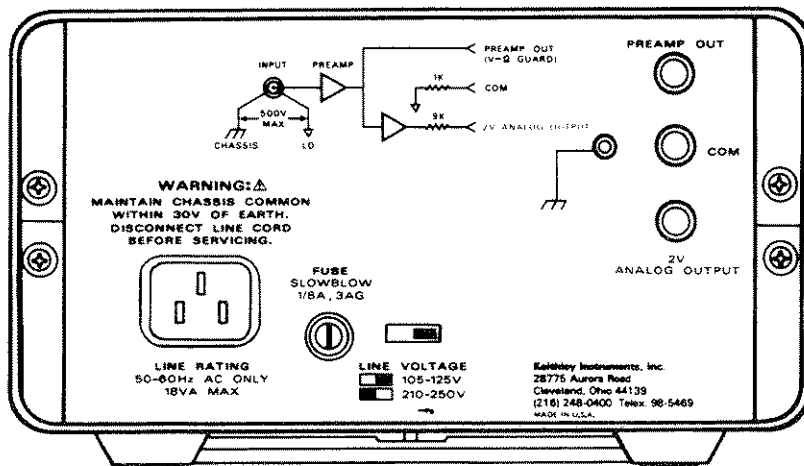

Figure 1-2. Model 614 Rear Panel
5. **LO**— This terminal provides a connection to input LO through a 1k $\Omega$  resistor (see rear panel schematic Figure 1-2).